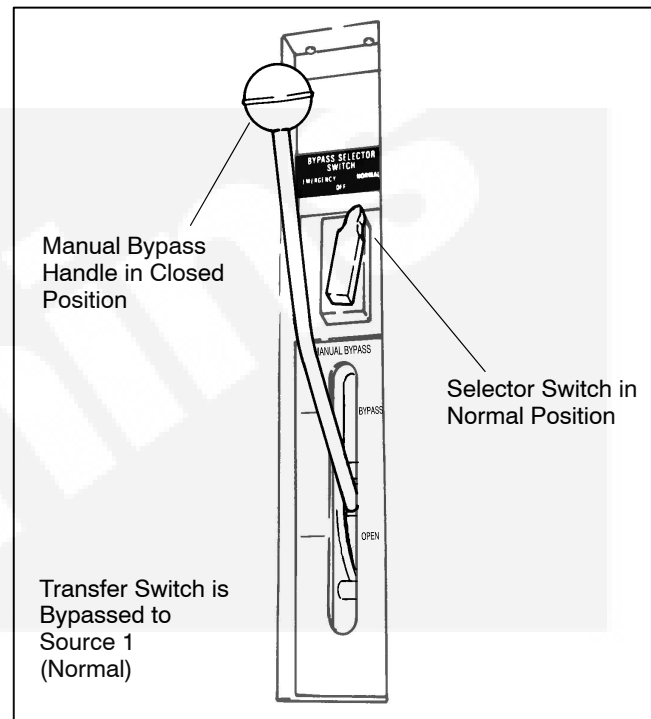

FIGURE 4-3. MANUAL BYPASS OPERATION
1. Turn the Source Selector Switch to the Normal position (Figure 4-3).